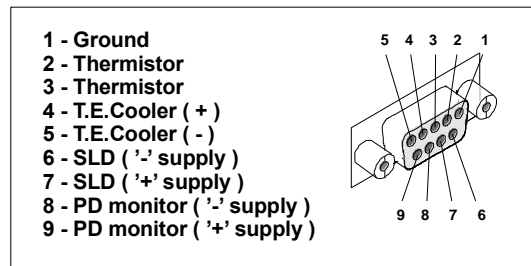

Fig.3.
*DSUB female connector allows operating SLD module from the front panel. See drawing and pin-outs of connector on fig.3.
1. Obtain X1 connections to control circuit as recommended on the Fig.3 or similar.